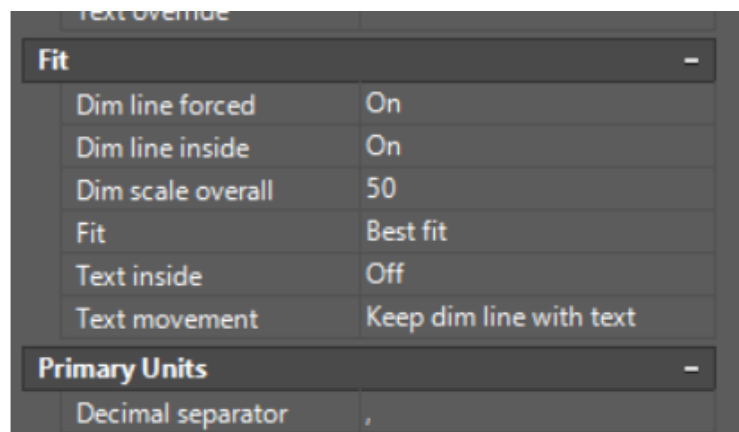

Figure 19. Fit menu of the properties window
Dimensioning of the details is done to the **Dimensions** layer. However, be sure to change the scaling value correct. Details are laid out on the sheet at a scale of 1:10. To change the scaling, first open properties menu with the **PROPERTIES (CH)** command. In the window that opens, you can change settings for selected dimension objects (Figure 19).